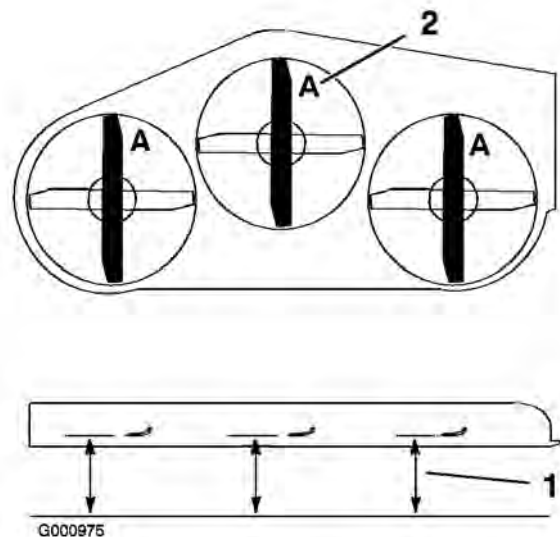

Figure 68
3. Rotate the blades until the ends face forward and backward (Figure 68). Measure from a level surface to the cutting edge, position A, of the blades (Figure 68). Note this dimension.